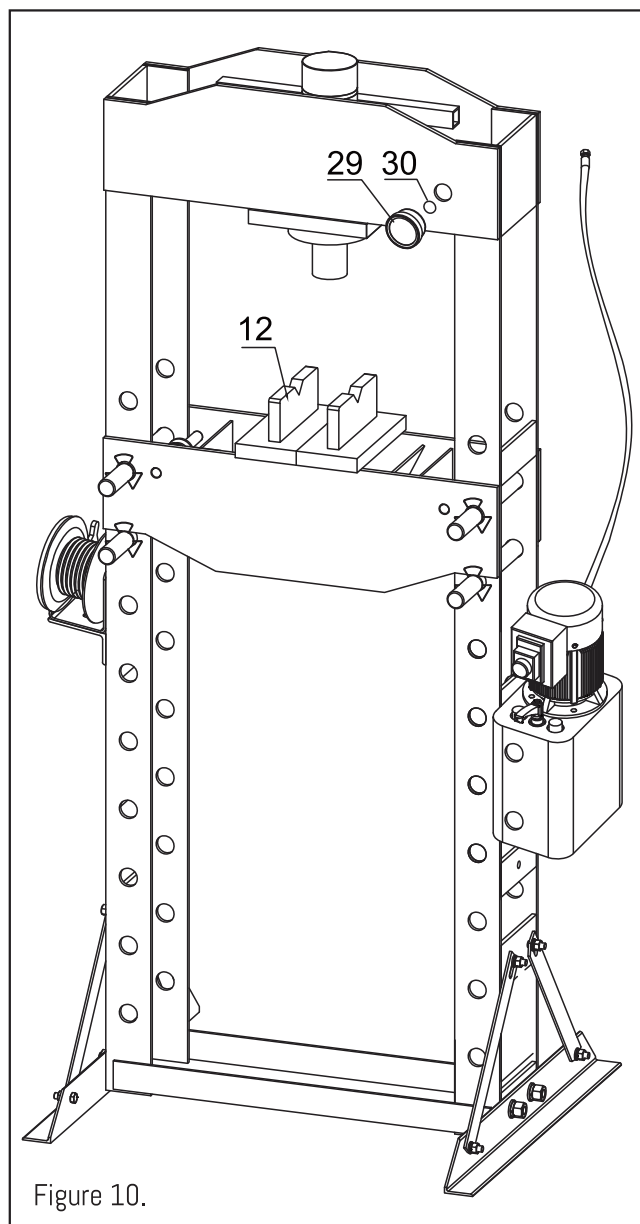

Figure 10.
6. Attach the Hose to the Tee Coupler. Then attach the Gauge (29) using O-Ring (30). Place the Arbor Plates (12) on the Press Table. See Figure 10.